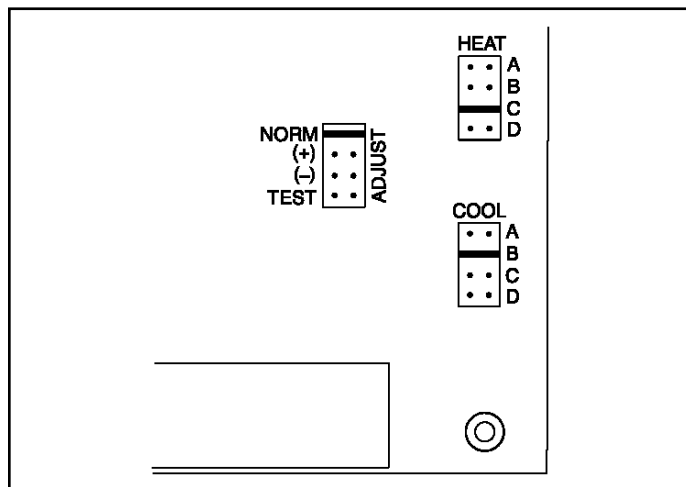

Figure 58. ADJUST, HEAT, and COOL Taps on Integrated Ignition/Blower Control Board
3. When there is a cooling demand, the indoor blower will run on the cooling speed designated by the positions of DIP switches (A, B, C, D) of the COOL jumper plug. See Figure 58.
The units are factory set for the highest airflow for each model. Adjustments can be made to the cooling airflow by repositioning the jumper plug marked COOL – A, B, C, D (see Figure 58). To determine what CFM the motor is delivering at any time, count the number of times the amber LED on the control board flashes. Each flash signifies 100 CFM; count the flashes and multiply by 100 to determine the actual CFM delivered (for example: 10 flashes x 100 = 1000 CFM).
These units are factory set to run at the middle of the heating rise range as shown on the unit rating plate. If higher or lower rise is desired, reposition the jumper plug marked HEAT - A, B, C, D (see Figure 58) . To determine what CFM the motor is delivering at any time, count the number of times the amber LED on the control board flashes. Each flash signifies 100 CFM; count the flashes and multiply by 100 to determine the actual CFM delivered (for example: 10 flashes x 100= 1000).
Airflow amounts may be increased or decreased by 10% by moving the ADJUST jumper plug (see Figure 58) from the NORM position to the (+) or (-) position. Changes to the ADJUST tap will affect both cooling and heating airflows. The TEST position on the ADJUST tap is not used.